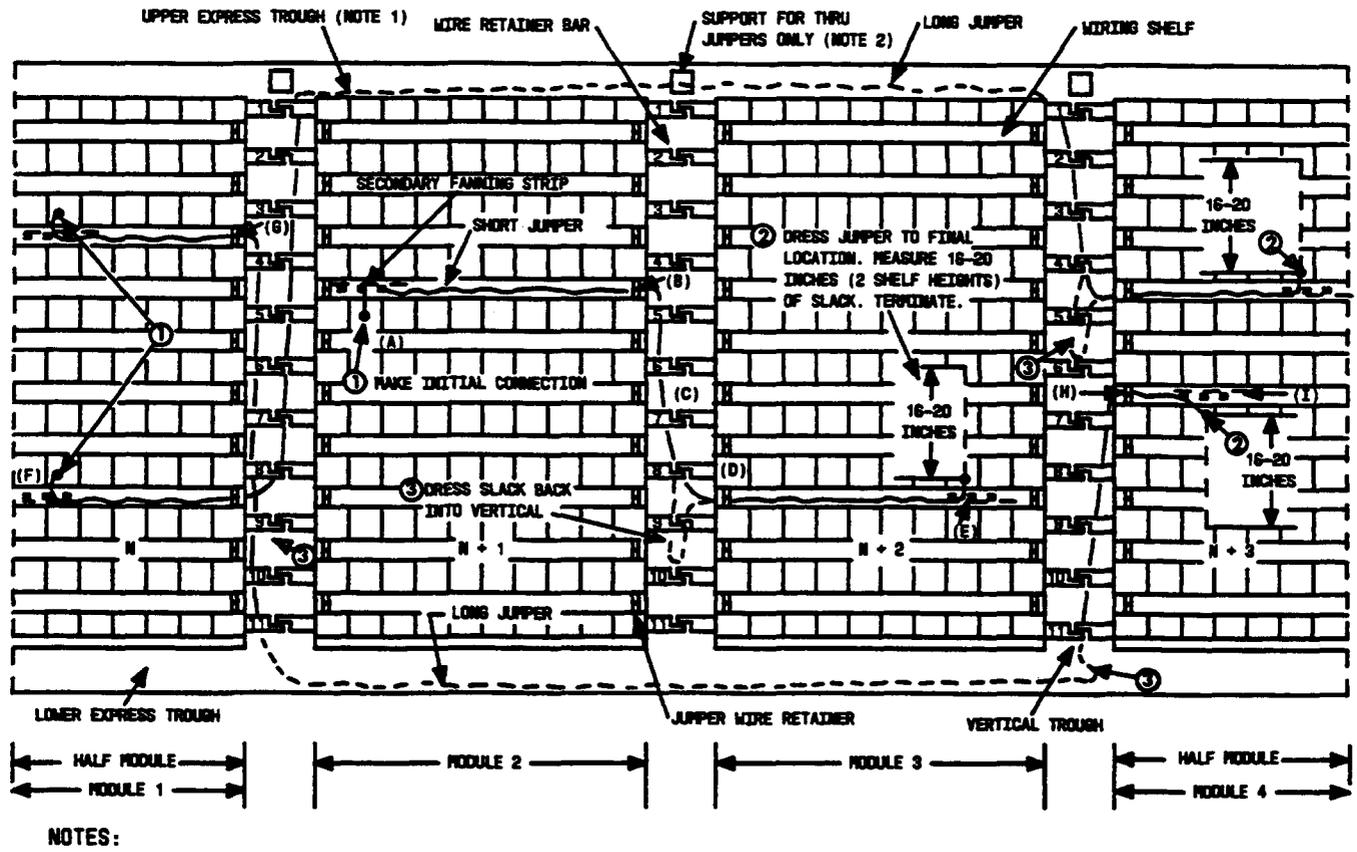

Figure 18—Method of Running Jumpers on COSMIC I, IA, II, or IIA Distributing Frames
Note: Refer to Figure 18 for jumper running functions and reference to letter designations for running short jumpers.
- (1) Using the correct wire insertion tool, connect the jumper to the designated terminals.
- (2) Dress the jumper into the primary fanning strip (Figure 18 [A]) that is closest to the terminals (top for rows 1 and 2 and all of shelf 11, bottom for rows 3 and 4 and all of shelf 1).
- (3) Then, dress the jumper into the secondary fanning strip and into the vertical trough, working toward the second termination. The jumper must be run behind the jumper wire retainer (Figure 18 [B]).
- (4) Run the jumper up, or down (as required), into the vertical trough until reaching the proper horizontal shelf.
- (5) Place the jumper behind the wire retainer bars (Figure 18 [C]).
Note: If LOIS indicates "U" (upper), run the jumper wire on the shelf above the indicated connecting block shelf, and if LOIS indicates "L" (lower), run the jumper wire on the shelf below the indicated connecting block shelf (Figure 18).
- (6) Run the jumper wire on the horizontal shelf, behind the jumper wire retainer (Figure 18 [D]). Leave about 16 to 20 inches of slack, and then cut the jumper wire.
- (7) Using the proper wire insertion tool, connect the jumper wire to the tip and ring terminals, then into the primary, and then into the secondary fanning strip.
- (8) Dress the slack into the vertical trough (Figure 18 [E]).
Note: Refer to Figure 18 for jumper running functions and references to letter designations for running long jumpers.
- (1) Locate the assigned terminal on the lower numbered module (Figure 18 [F]).
- (2) Using the correct wire insertion tool, connect the jumper to the designated terminal
- (3) Dress the jumper on the shelf, working toward the second termination on the higher numbered module.
- (4) Place the jumper into the vertical trough behind the jumper wire retainers (Figure 18 [G]).
- (5) Run the jumper to the proper express trough by proceeding as follow:
- (6) Dress the jumper behind the wire retainer bars.
- (7) Run the jumper wire in the upper or lower express trough to the vertical trough that is immediately prior to the final terminal location regardless of the terminal location within the module.
- (8) If the upper express trough is used, place jumper behind the jumper support bar.
- (9) Run the jumper up or down the vertical trough, as required, until reaching the proper horizontal shelf.
- (10) Place the jumper behind the jumper wire retainer bars (Figure 18 [H]).
- (1) Run the jumper wire on the horizontal shelf and through the appropriate secondary fanning strip (Figure 18 [I]).
- (2) Before cutting the jumper wire, approximate 16 to 20 inches of slack. Dress the slack back through the secondary fanning strip along the horizontal shelf and into the vertical trough.